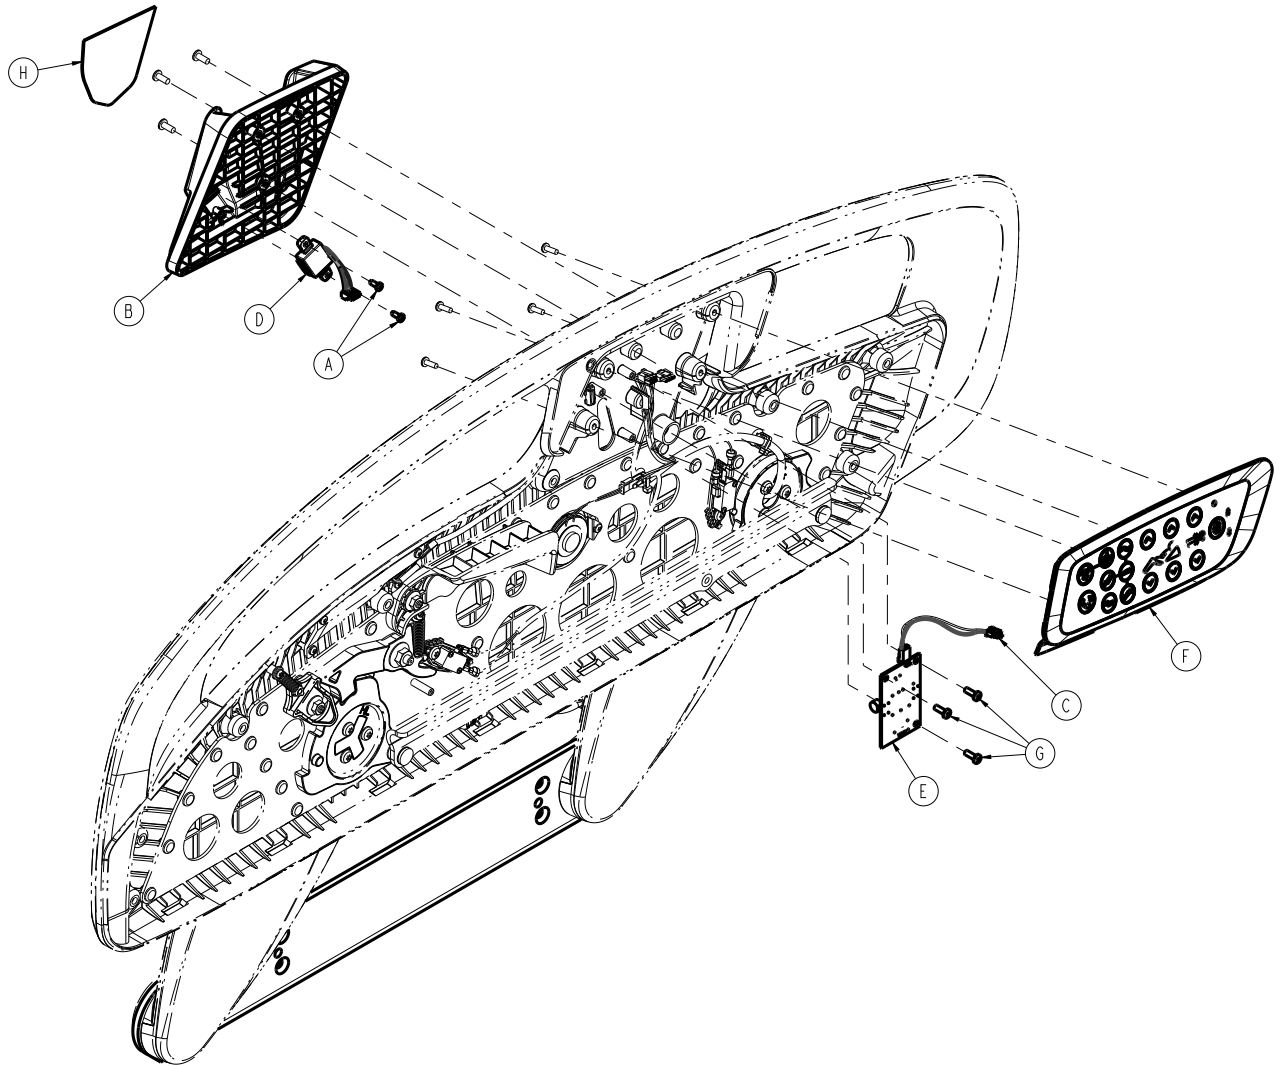

Figure 55 – Replacing the USB port option
9. Unplug the USB cable (D) from the USB charging board (E) to remove the patient belonging bracket with USB (B) (Figure 55).
11. If the product has the USB charger option, use a T20 Torx driver to remove the three screws (G) that secure the USB charger board (E) to the siderail hoop (Figure 55). Remove and save the board.